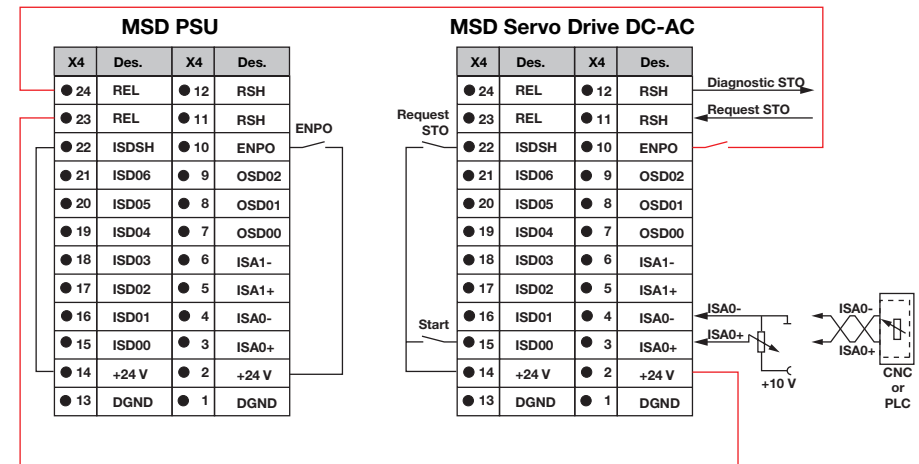

Figure 10.1 Interlocking MSD Servo Drive Multi-Axis System (example)
1.	Connect the Power Supply Unit to the DC-AC Servo Drives connected as shown in Figure 10.1.